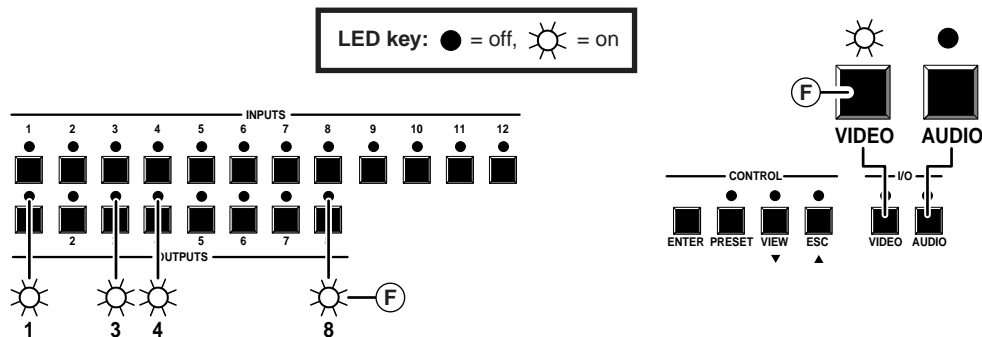

Figure 3-10 — Example 4f: Viewing the current configuration, video only
- (F) Press and release the Video and Audio buttons to toggle the Video LED on and the Audio LED off (figure 3-10).